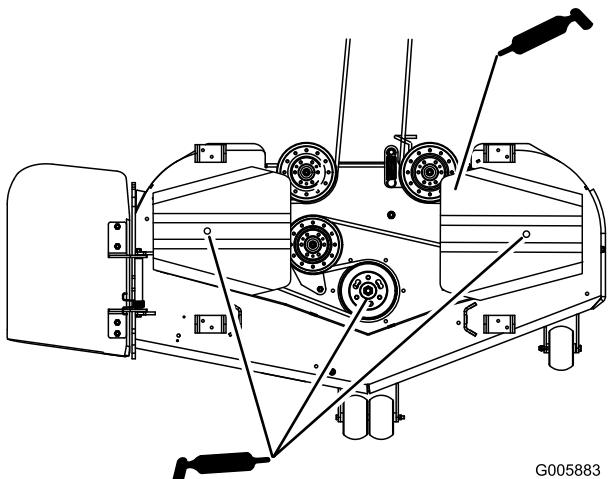

Figure 34
3. Grease the fittings on the 3 spindle bearings (Figure 34).
- Grease the idler pulley pivot (Figure 34).